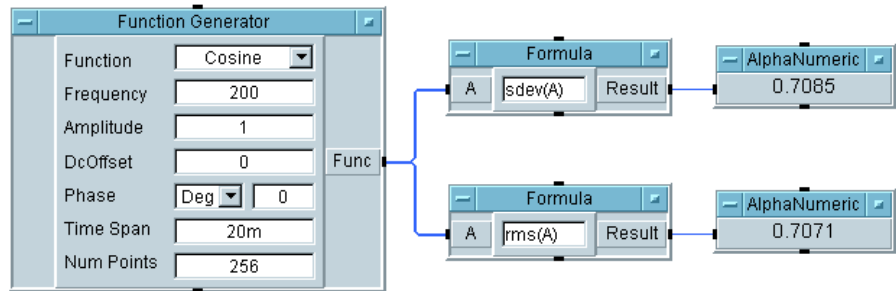

Figure 4-7. Formula Examples Using VEE Functions
5. Run the program. The program displays the same answers when these functions are put into the `Formula` object as it did when they were used as independent objects, as shown in Figure 4-7.